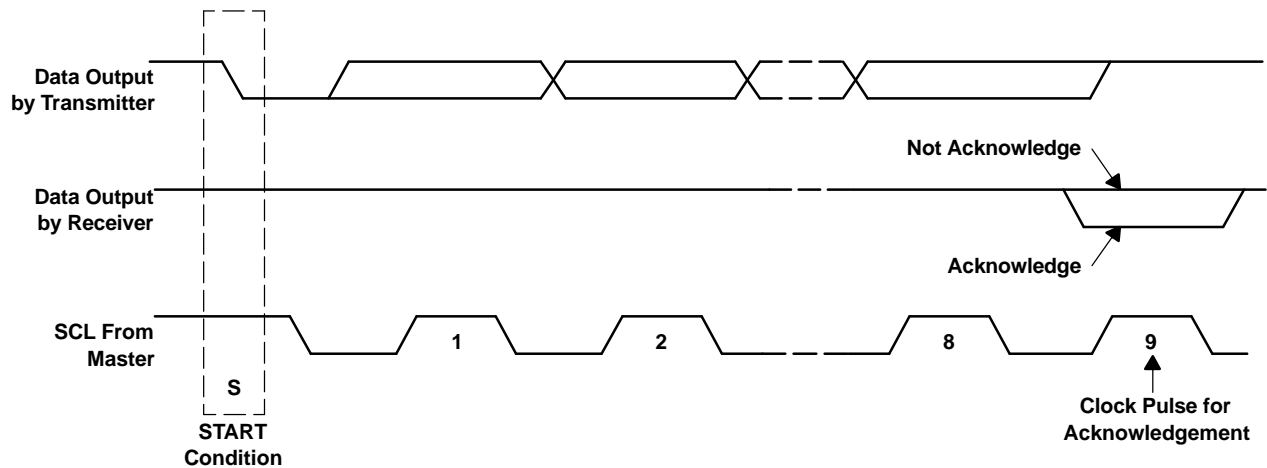

Figure 41. Acknowledge on the I²C Bus
- The addressed *Slave* responds by pulling the SDA pin low during the ninth clock pulse, termed the *Acknowledge* bit (see Figure 41). At this stage all other devices on the bus remain idle while the selected device waits for data to be written to its shift register.